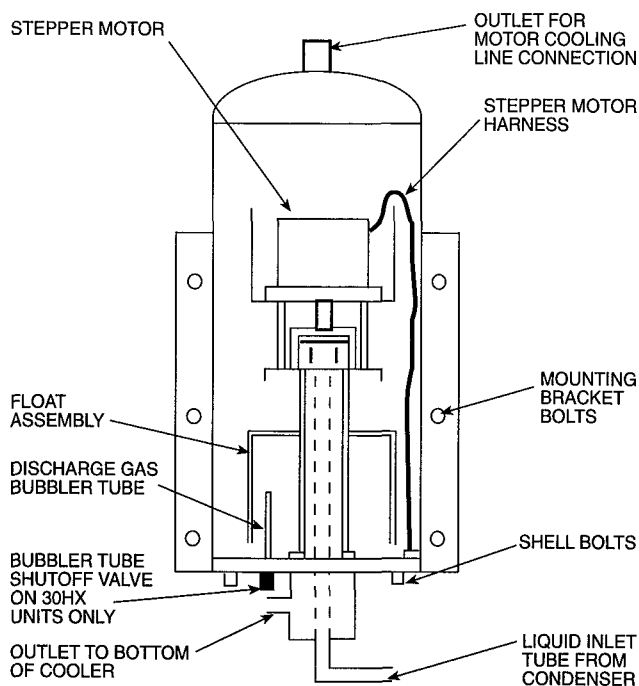

Fig. 13 — 30GX,HX Cutaway View of Economizer Assembly
INSPECTING/OPENING ECONOMIZERS — To check the physical operation of an economizer (see Fig. 13), the following steps must be performed:
- a. Verify that float assembly (see cross section view in Fig. 13) moves up and down freely. It should take only a minimal force (less than one pound) to move the float and there should be no binding.